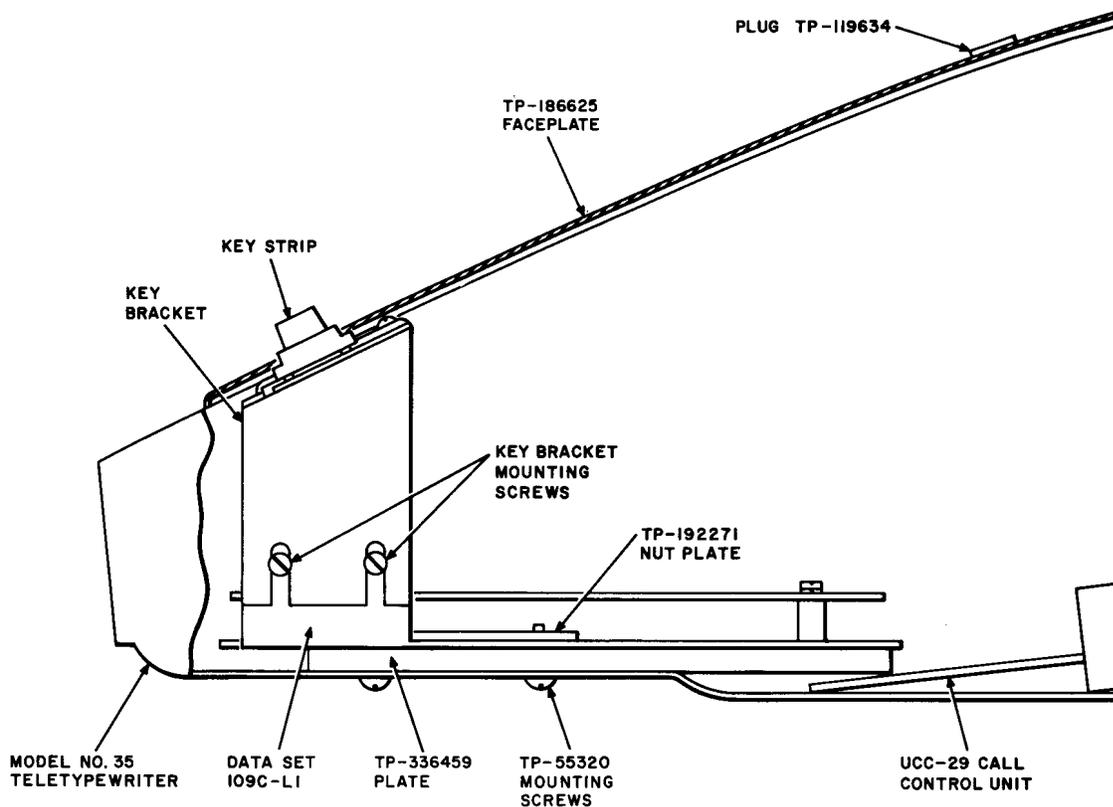

Fig. 5—Mounting Details, Data Set 109C-L1 in Model No. 35 Teletypewriter
- (d) Lift data set vertically and remove the nutplate that is positioned beneath the EU1 circuit pack (Fig. 5).
- (c) Place the TP-336459 plate in the pedestal pan so that holes in the plate line up with the holes in the pan (Fig. 5).
pedestal pan and start them in the nutplate (Fig. 5).